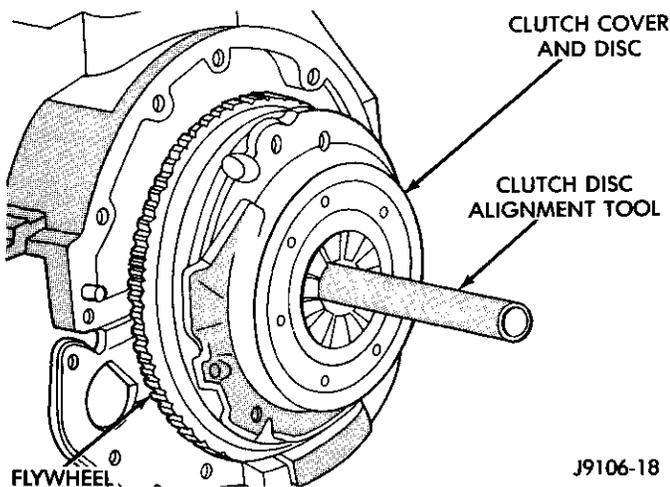

Fig. 5 Clutch Disc And Cover Alignment/Installation
(5) Insert alignment tool in pilot bearing and position disc on flywheel surface (Fig. 5).
(6) Position clutch cover over disc and onto flywheel (Fig. 5).